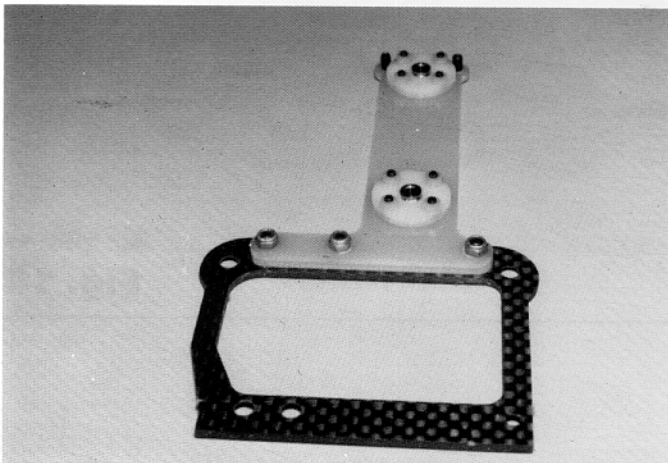

**Fig. 16**
□ **Fig. 16**—The two set screws you've just installed are called the **TWEAK SCREWS**. These are **VERY IMPORTANT**. We'll be coming back and adjusting these after the car is completely assembled.